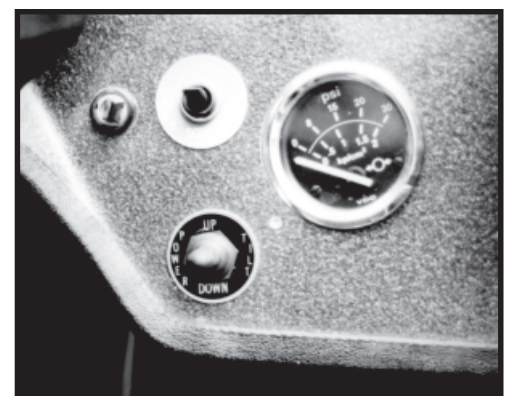

Fig. 15
Step 13: Push the toggle switch through the 1/2 inch hole that you previously drilled. Place the up-down switch plate and rubber boot with nut on the switch (Fig. 15).